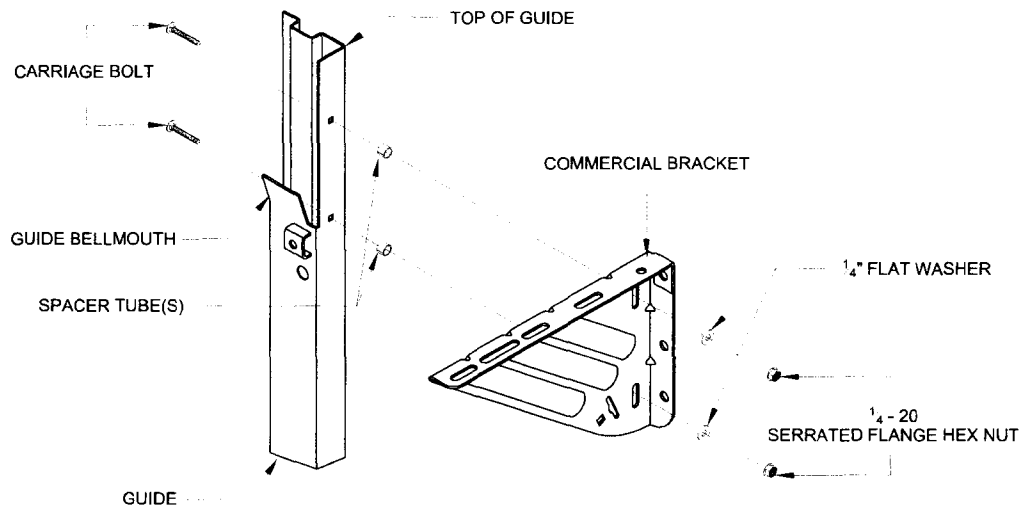

FIGURE 6: DRIVE END (RH Shown/LH Opposite)
- ➔ **Reduced Hand Chain Drive:** Attach Commercial Brackets to guides, locating top surface of bracket 2" below top of guide. Install drive bracket with 2 each $\frac{1}{4}$ - 20 x $1\frac{3}{4}$ " carriage bolts, $\frac{1}{4}$ - 20 serrated flange hex nuts and $\frac{1}{4}$ " flat washers. Insert 1 each $\frac{1}{2}$ " O.D. x $\frac{1}{2}$ " long spacer tubes between guide and bracket at each bolt location. See Figure 6.
- ➔ **Jack Shaft Motor Operation:** Attach Commercial Brackets to guides, locating top surface of bracket 2" below top of guide. Install drive bracket with 2 each $\frac{1}{4}$ - 20 x $2\frac{1}{2}$ " carriage bolts, $\frac{1}{4}$ - 20 serrated flange hex nuts and $\frac{1}{4}$ " flat washers. Insert 1 each $1\frac{1}{4}$ " O.D. x $1\frac{1}{2}$ " long spacer tubes between guide and bracket at each bolt location. See Figure 6.
- ➔ **Pantheon Motor Operation:** Install drive bracket with $1\frac{1}{2}$ " spacing between outside of guide and inside of bracket. No spacers are provided for this application. Locate top surface of bracket 2" below top of guide. See Figure 6. (Spacers not provided)